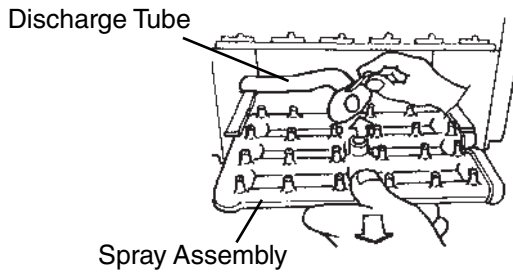

Fig. 37
- 7) Disconnect the discharge tube from the spray assembly, then slide out the spray assembly. See Fig. 37.